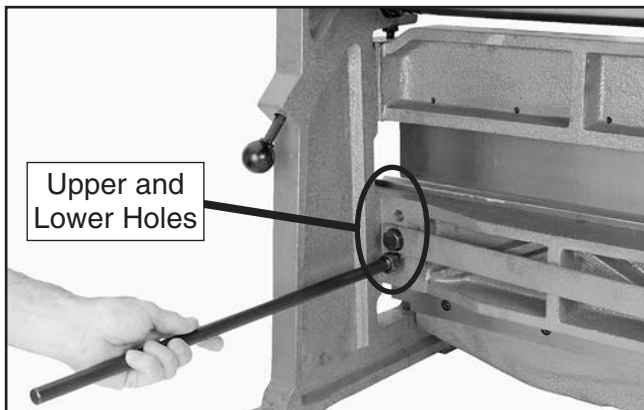

Figure 9. Stop rod installation in lower hole.
3. Thread one M16-2 hex nut onto each stop rod and thread both rods into the lower holes of the outfeed side of the casting (**Figure 9**).